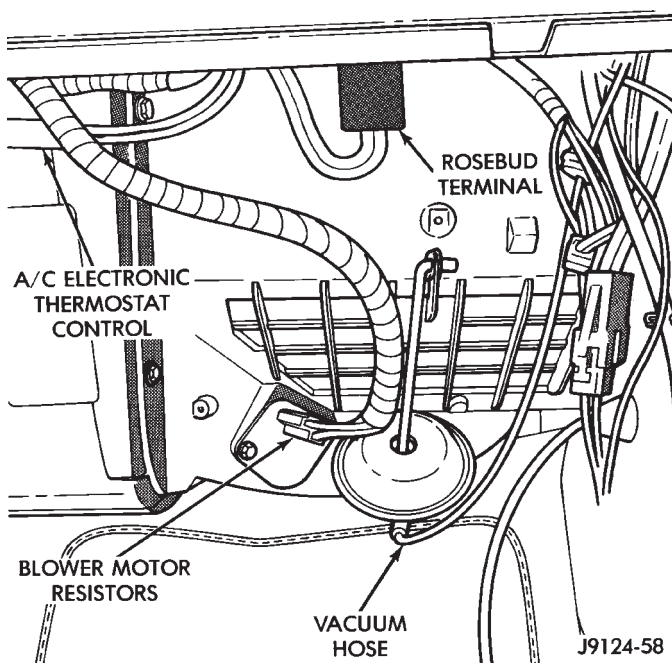
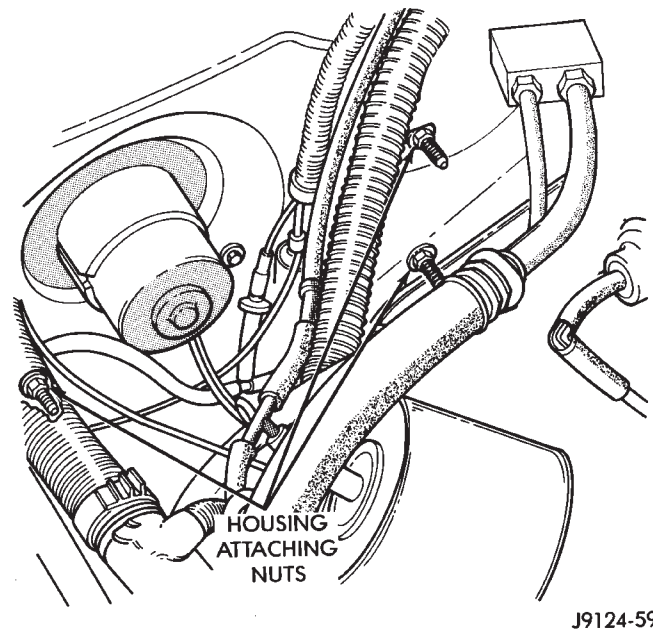

Fig. 23 Evaporator Housing Components
Fig. 25 Evaporator Housing Mounting
- (5) Remove the lower instrument panel.
- (6) Disconnect the electrical connections at the blower motor resistors and the A/C thermostat. Disconnect the vacuum hose at the vacuum motor (Fig. 23).
- (10) Remove the housing attaching nuts from the studs on the engine compartment side of the dash panel (Fig. 25). Remove the evaporator drain tube.
(2) Install the housing retaining screws and the rear housing clip (Fig. 25).
(3) Install the housing retaining nuts on the engine compartment side of the dash panel (Fig. 25).
(4) Connect the A/C hoses to the expansion valve and connect the heater blower motor wires.
(5) Attach the wire connections at the blower motor resistors and the A/C thermostat (Fig. 23).
(6) Connect the vacuum hose at the vacuum motor and attach the heater control cable.
(7) Install the instrument panel bolt and the kick panel.
(8) Install the lower instrument panel and screws.
(9) Install the console (if equipped).
(10) Connect negative cable to battery.
(11) Evacuate and charge the A/C system as outlined in this section.
(12) Start the vehicle and check for proper operation at all vacuum motors.